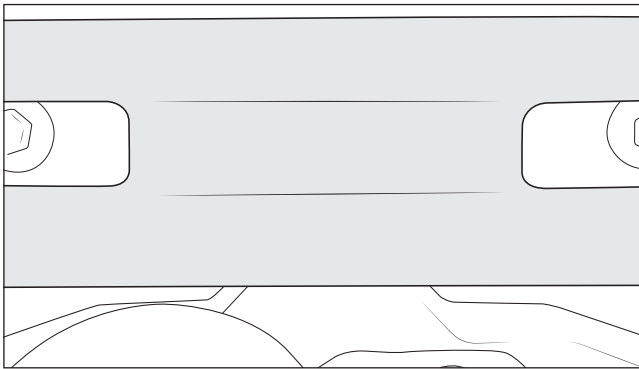

Figure 27
2. Use the supplied alcohol wipe to clean the badge recess on the center section (fig. 27). Install the adhesive backed AEV badge into the recess, holding with firm pressure for 30 seconds.